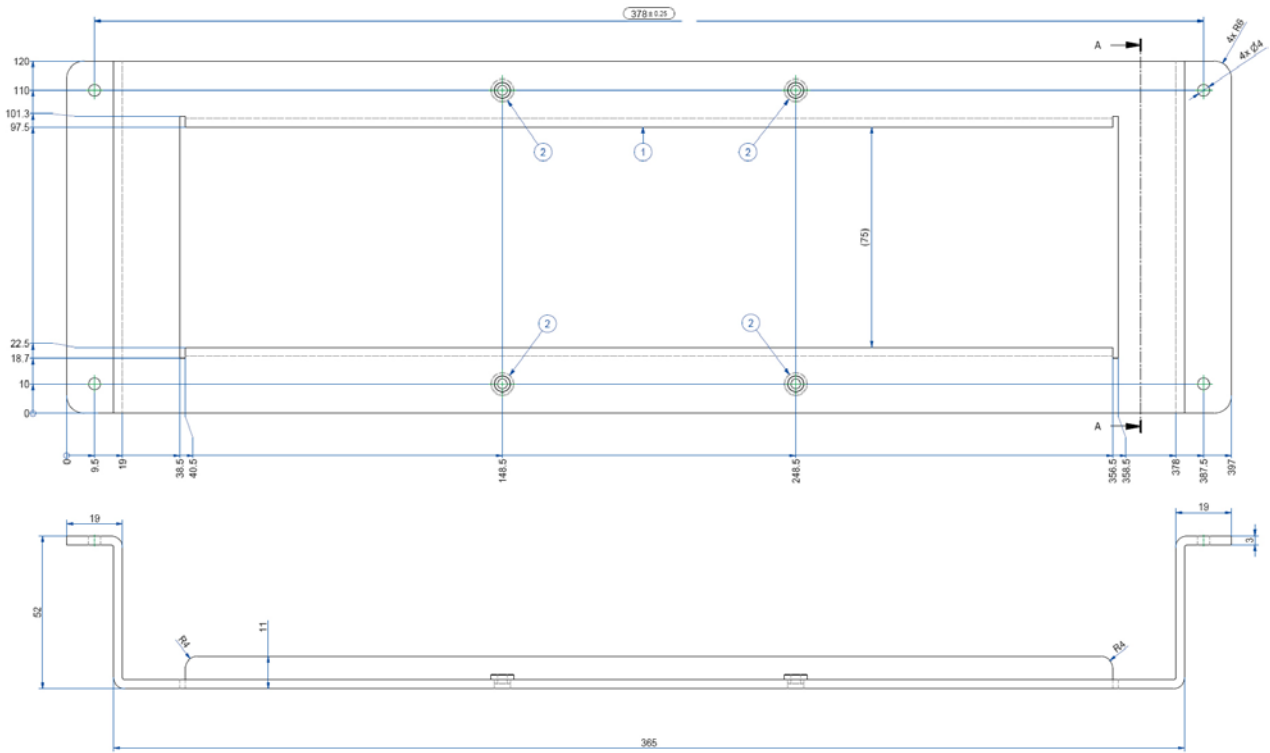

Fig. 39: Rear and bottom view of the mounting plate VESA® 75/100 for MC 3W 156
- ❑ MC 3W 156 is also VESA® 100 compliant (refer to Fig. 39).